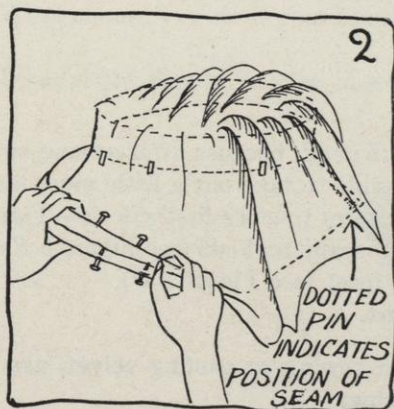

FIG. 2.
- c. For raw edge top facing, use the measurements written down in Sections 1 *a* (7) and 1 *b* (2) (page 144).
- d. For finished edge top facing, use the measurements that you wrote down after reading Sections 1 *a* (7) and 1 *b* (2) (page 144), **but add 1 inch** more to them. This 1 inch takes care of finishing at the edge. The 1 inch that was allowed at each end of the tape measure, when measuring as above from front to back and from side to side, took care of the allowance for the swing.
- e. Read and follow Sections 2 *e* (1) and (2) of Job 35 (page 142), on how to mark off material.
- a. Put a pin at the point in the edgewire where you desire to put the seam. This will help you to get the swing (see Figure 2).
- b. Place bias corner of material on that part of the brim that is most difficult to fit and let it sink into headsize (see Figure 2).
- c. Start at this point to pin material at headsize and smooth it out, working from headsize toward edgewire, then pin at edgewire (see Figure 2).
- d. Repeat Section *c*, working from right and left of starting point, toward the pin which marks the position of the seam, in order to get the swing (in other words, to find the way the material will fit best), and pin as you go (see Figure 2).